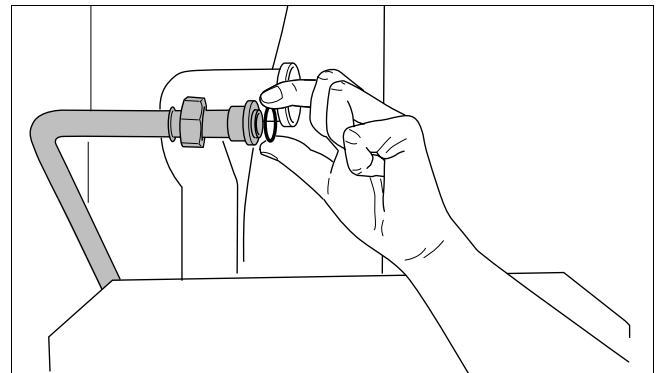

fig. 14 Installing a new seal on the gas pipe
- Remove the seal from the gas pipe and install a new seal (fig. 14).